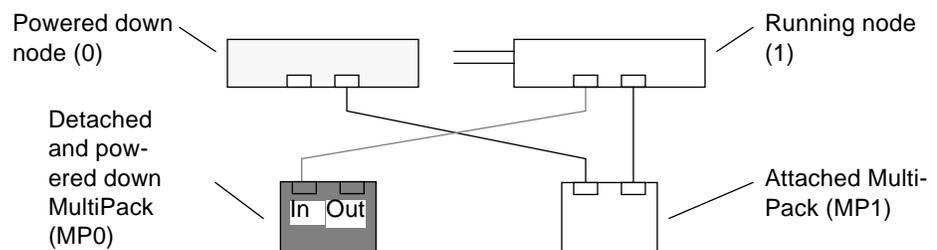

Figure 7-11 SCSI Cable Moved from Out Port to In port
7. If the remaining cable between the working Node 1 and the powered down MultiPack is connected to the SCSI Out port, reconnect it to the SCSI In port. (Figure 7-11).